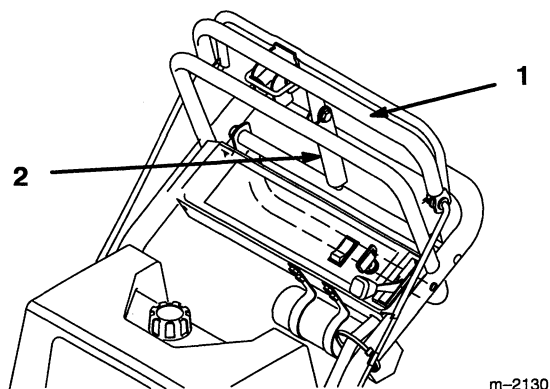

Figure 11
1. Pull the upper control bar (Fig. 11) rearward and hold it in this position.
2. Lift the parking brake lock (Fig. 11) up and gradually release the upper control bar. The brake lock should stay in the set (locked) position.
1. Pull rearward on the upper control bar (Fig. 11). Lower the parking brake lock to the released position.